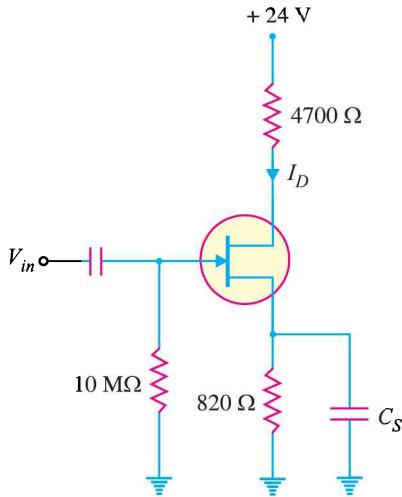

Fig. 19.64
- In the JFET circuit shown in Fig. 19.64 if  $I_D = 1.9 \text{ mA}$ , find  $V_{GS}$  and  $V_{DS}$ .